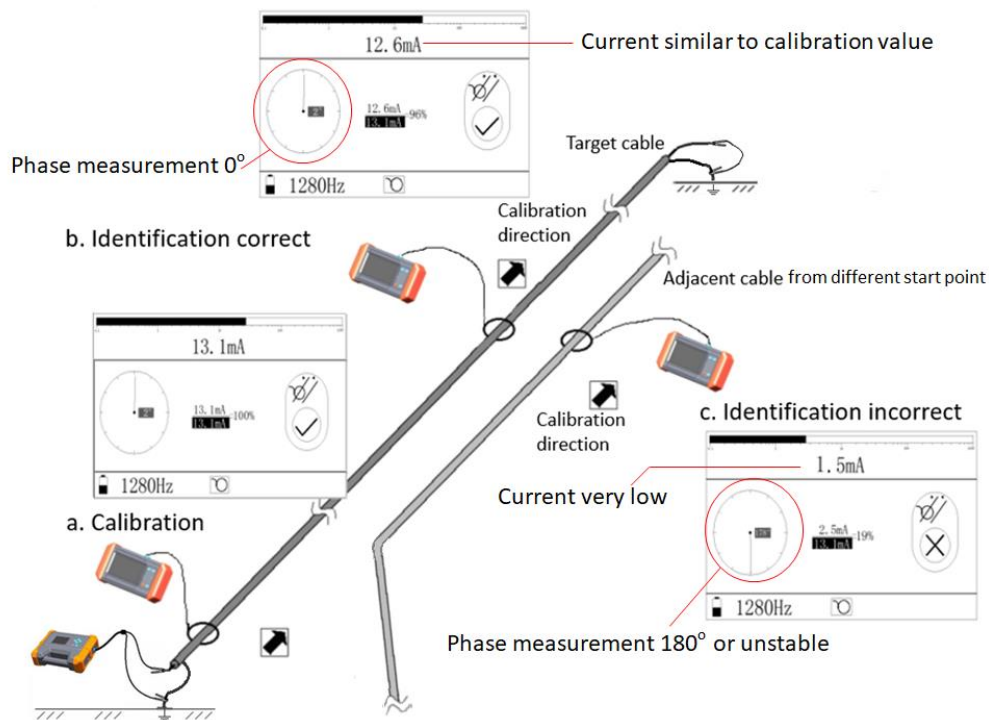

Figure 5.7 Results for adjacent cables from different start points with core conductor earth connection
- The third example (Figure 5.7): The paths of other parallel cables and the target cable are different (generally the ends are at different positions). The measurement result is: the target cable current is I, but the value is much smaller than the transmitter injection value, and the phase is near 0° , prompting identification Correct. The adjacent line current is close to 0, and the phase is close to 180° or unstable, indicating a recognition error.